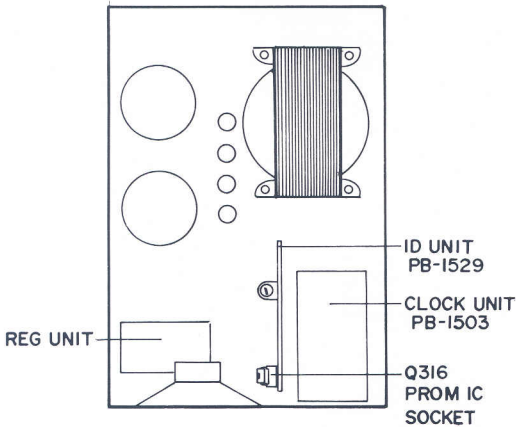

Figure 2
- (1) Unplug the cord from the power supply outlet.
- (2) Remove 6 screws on the front end and 4 screws on the rear end of the cabinet and slide the chassis out from the cabinet.
- (3) Locate printed board PB-1503. Refer to Fig. 2. Pin 9 of the printed board has been connected to pin 4 for 60 Hz. Disconnect the wire between pin 9 and pin 4 for 50 Hz use.
- (4) To convert from 50 Hz to 60 Hz, connect pin 9 to pin 4 with a wire.
- (5) Recover the cabinet.